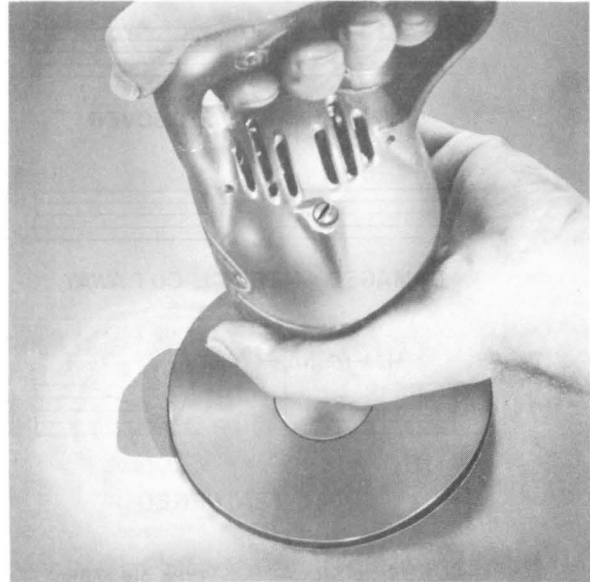

Fig. 22—Feathering Edge of Hole
6.07 Using a high-speed disc sander, abrade the edge to a smooth contour and feather approximately 1-1/2 inches beyond the edge of the hole. (See Fig. 22.)